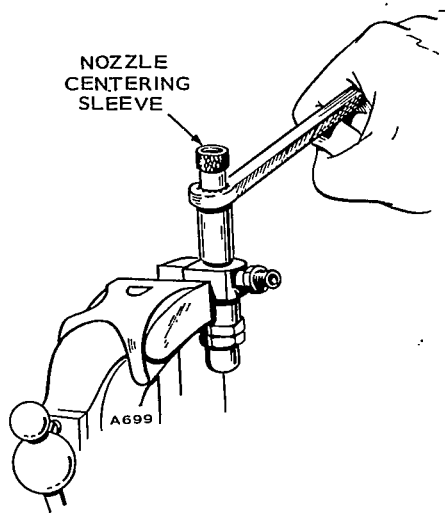

FIGURE 20. TIGHTEN NOZZLE
5. Place centering sleeve over nozzle (Figure 20) for initial tightening. Then remove the centering sleeve to prevent it from binding between nozzle and cap nut and tighten the nozzle cap nut to 50-55 foot pounds.